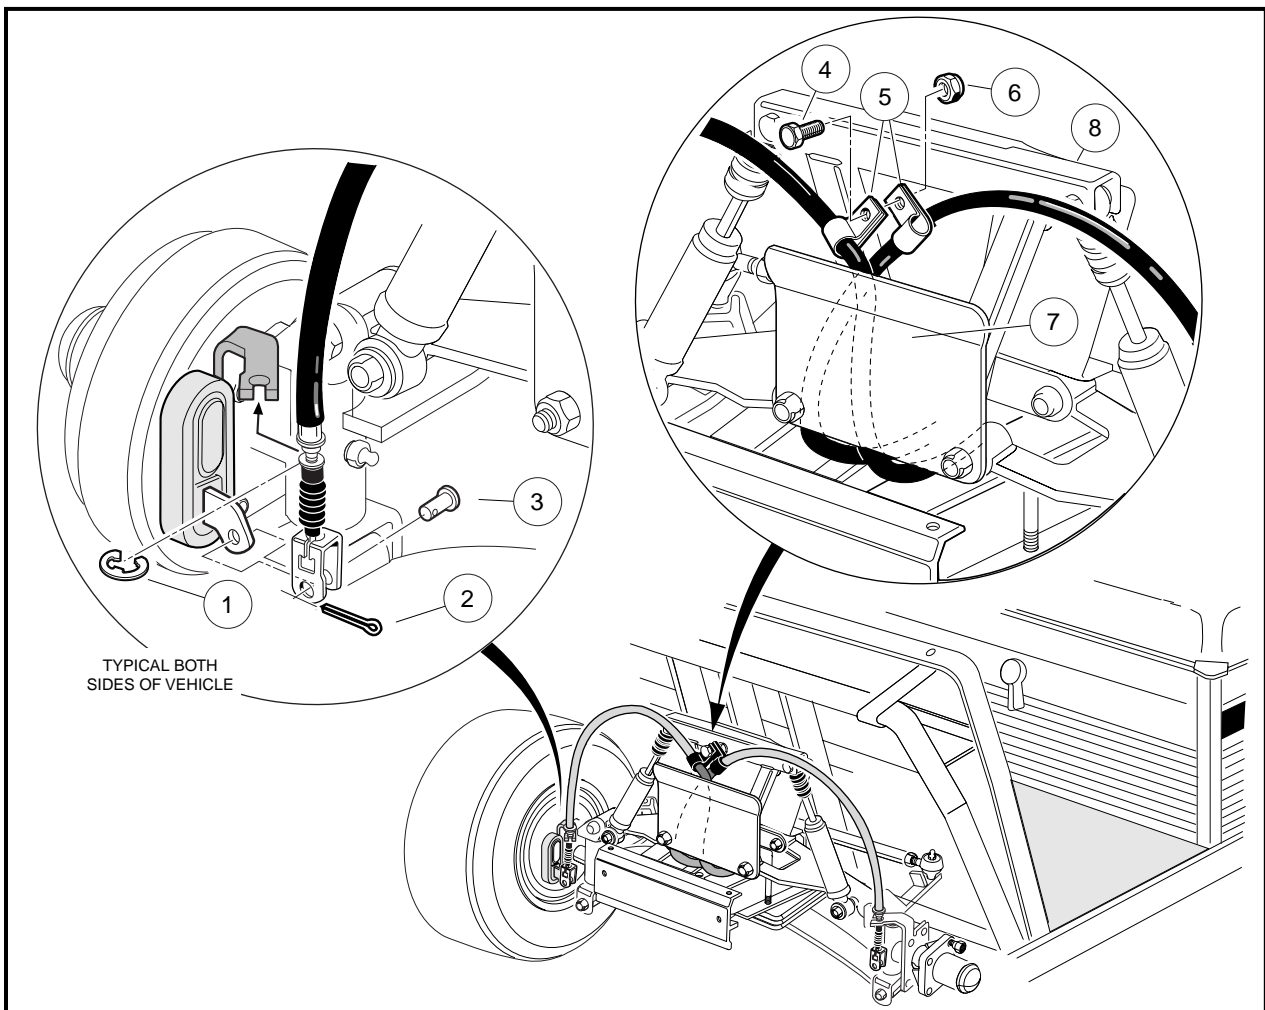

Figure 6-30 Front Brake Cables
1. Remove cotter pin (2) and clevis pin (3) from brake lever arm on front brake cluster (**Figure 6-30, Page 6-18**).
2. Remove E-clip (1) from brake cable housing at the front spindle bracket and remove cable from spindle (**Figure 6-30, Page 6-18**).
4. Remove bolt (4) and nut (6) from brake cable clamp (5) (**Figure 6-30, Page 6-18**).
5. Route brake cable between the shock support (8) and brake cable guide bracket (7) (**Figure 6-30, Page 6-18**). Secure brake cable retainer clips (5) with a bolt (4) and nut (6) (**Figure 6-30, Page 6-18**).
6. Install brake cable through the front spindle brackets and install E-clip (1) (**Figure 6-30, Page 6-18**).
7. Install brake cable clevis onto brake lever arm and install clevis pin (3) and a new cotter pin (2) (**Figure 6-30, Page 6-18**).